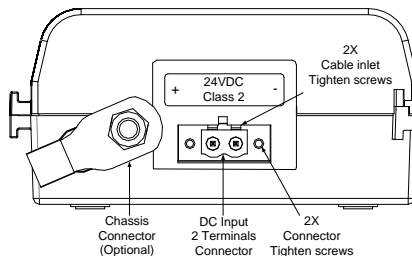

Figure 2: PoE Midspan Power Connector
- The power connector supplied with the PoE Midspan (included in the package) has 2 terminals; '+' (POS) and '-' (NEG) (See Figure 2).
- After inserting a cable inlet to the connector terminals, tightly fasten all 4 connector screws (See Figure 2).
- Tighten the 2 connector screws (See Figure 2).
- Connect the PoE Midspan Input connector to Stranded Tinned Copper cables, 16 AWG for each terminal (rated for 3.5 Amperes), and tighten the 2 Cable inlet screws (See Figure 2).